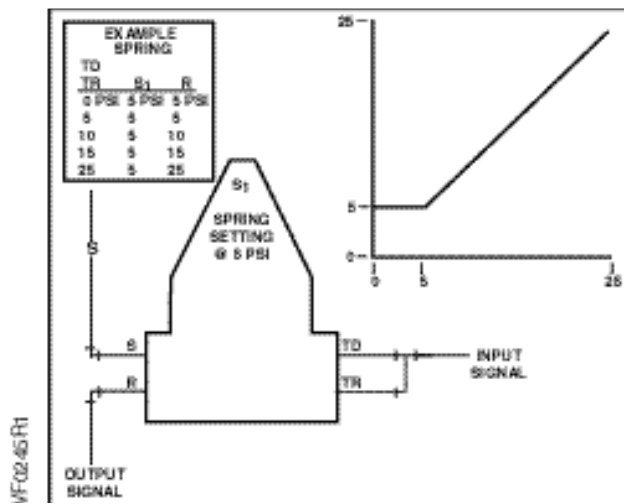

Figure 6. Minimum Pressure Relay.
- Minimum pressure relay (See Figure 6).
Relay output will always provide a minimum pressure as adjusted with spring S-1. Variations in input signal below this minimum will not affect output pressure. Output pressure will equal input pressure for any value over the minimum setting. Air supply to S-port can be from EP valve or equivalent to provide interlock with system operation (Figure 6).